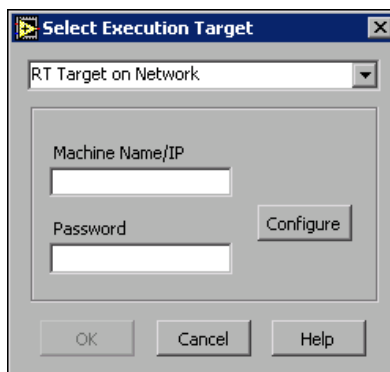

Figure 2-2. Select Execution Target Dialog Box
1. Select **Select Target with Options** from the **Execution Target** pull-down menu to open the **Select Execution Target** dialog box shown in Figure 2-2.